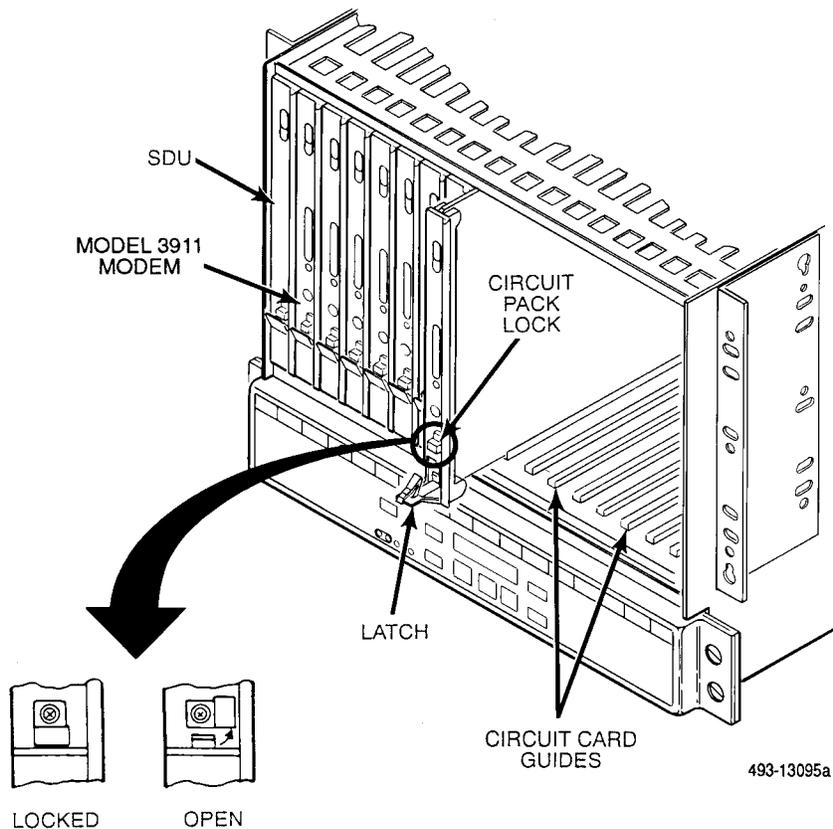

Figure 3. Circuit Pack Lock
6. Once you have determined that the modem is installed properly and completed its power-up self-test, rotate the circuit pack lock until it covers the faceplate latch (Figure 3) and tighten the retention screw on the circuit pack lock. This prevents the modem from accidentally being removed once it is installed in a carrier.